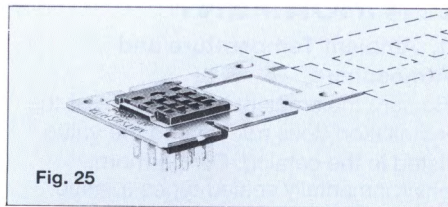

Fig. 25
• The socket should be inserted through the opening in the mounting panel so that the terminal wiring side is toward the back side. The mounting panel can be used for 10 units, but it can be cut for use with less than that number. (Fig. 25)